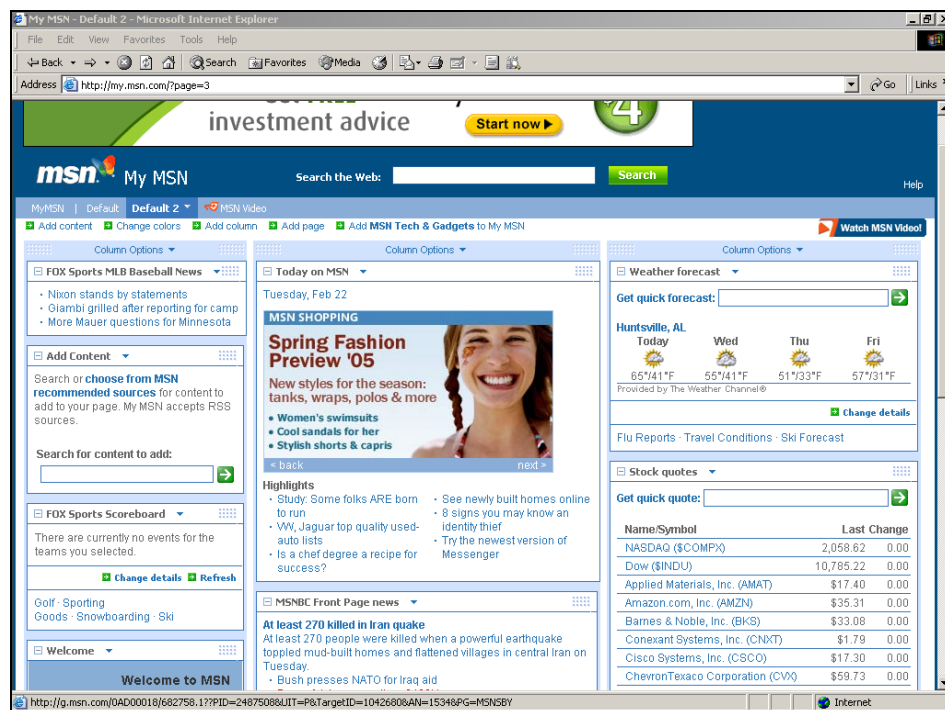

FIGURE 129: Accessing The Internet Example
- 2) Access the Internet from your Internet Provider or similar source (see Figure 129).